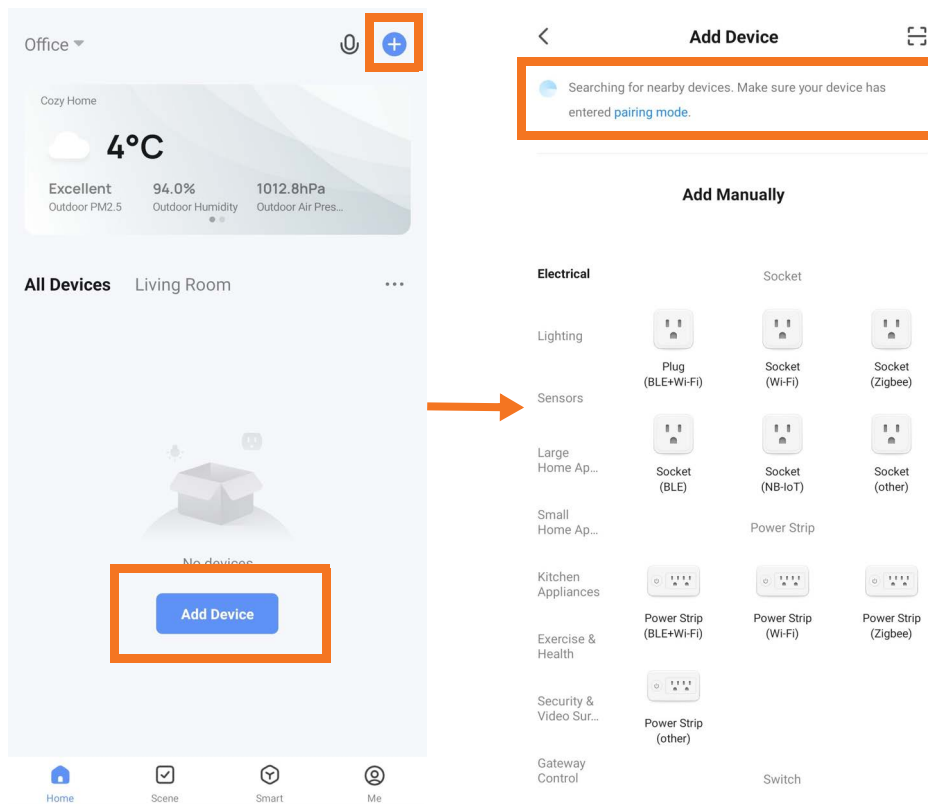

Figure 8 | Adding device on Smart Life app
4. The app should start scanning, as shown by the icon at the top of the screen (see **Figure 8**). If this icon and text does not show, press  in the top right-hand corner.